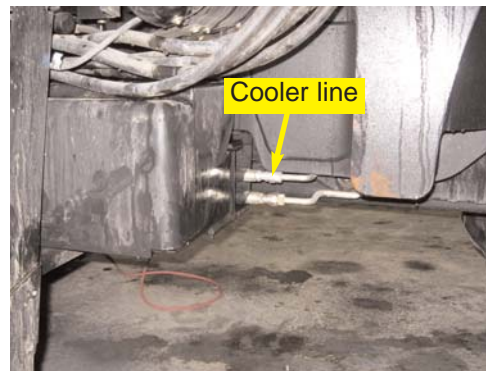

Figure 3d. Tank location.
c. Tank flow will be relieved to the cooler line. (Figure 3d.)